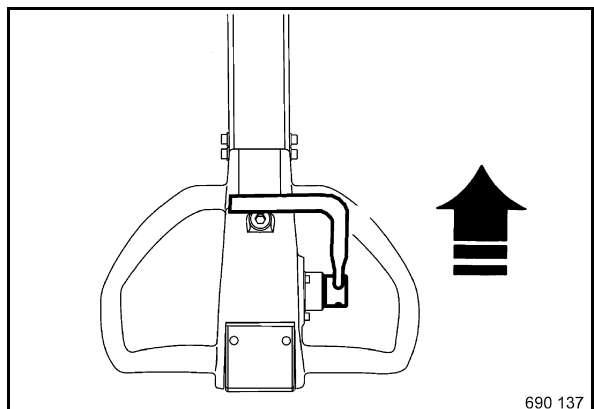

Fig. 63
- Hold the travel lever in forward position (Fig. 63).